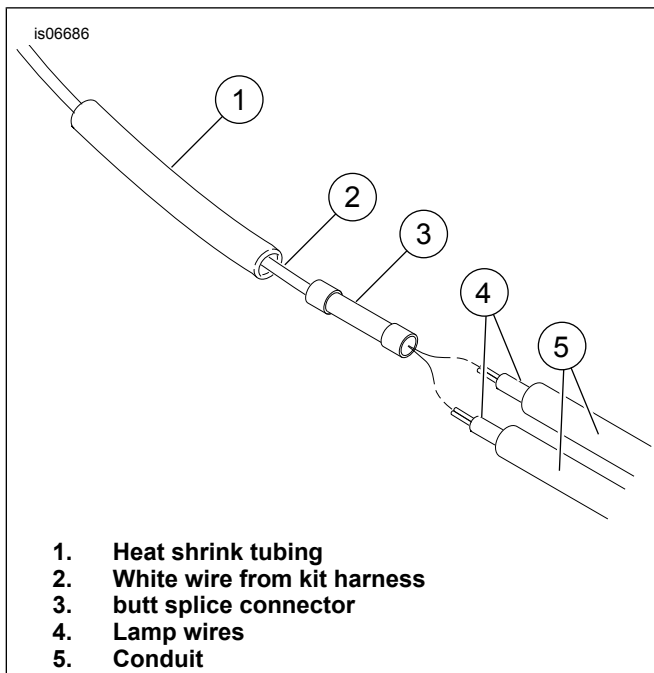
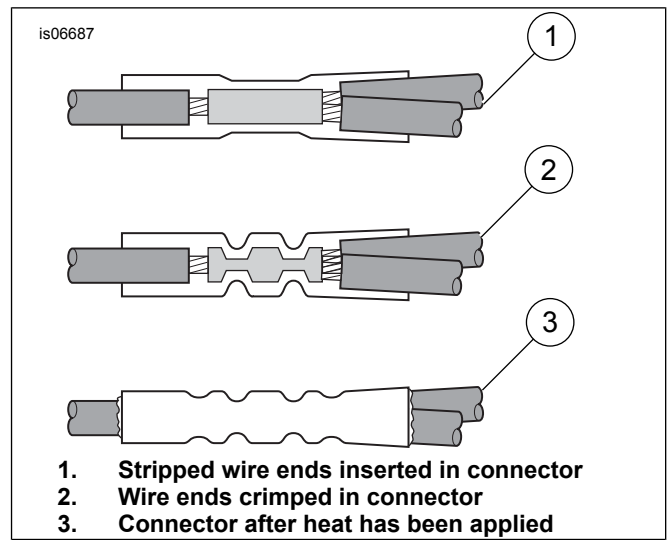

Figure 8. Connect the Lamp Wires to the Kit Harness
Figure 9. Installing Sealed Butt Splice Connectors
- See Figure 8 and Figure 9, and the SEALED SPLICE CONNECTORS section of the service manual. Slide the heat-shrink tubing (1) over the white wire (2) from the kit harness, and crimp the electrical connector (3) to the wire with a Crimp Tool, Part No. H-D 38125-8.
- Bring both lamp wires (4) to the connector. Trim the wires, allowing approximately 1 inch (25 mm) of the wire to extend past the butt splice connector. Trim the conduit (5) approximately 1-1/2 in. (38 mm) back from the end of the wire.
- Insert the ends of both lamp wires (4) into the electrical connector (3) and crimp the wires to the connector with the crimp tool.